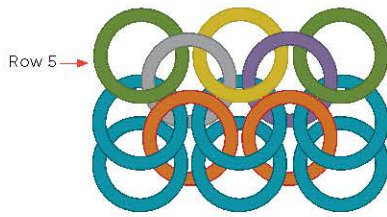

FIG. 5
6. Thread and close 1 open (green) jump ring through the right jump ring of row 4 and then thread and close 1 open (green) jump ring through the left jump ring of row 4. You have just completed row 5, which is comprised of 3 jump rings (**FIG. 5**).